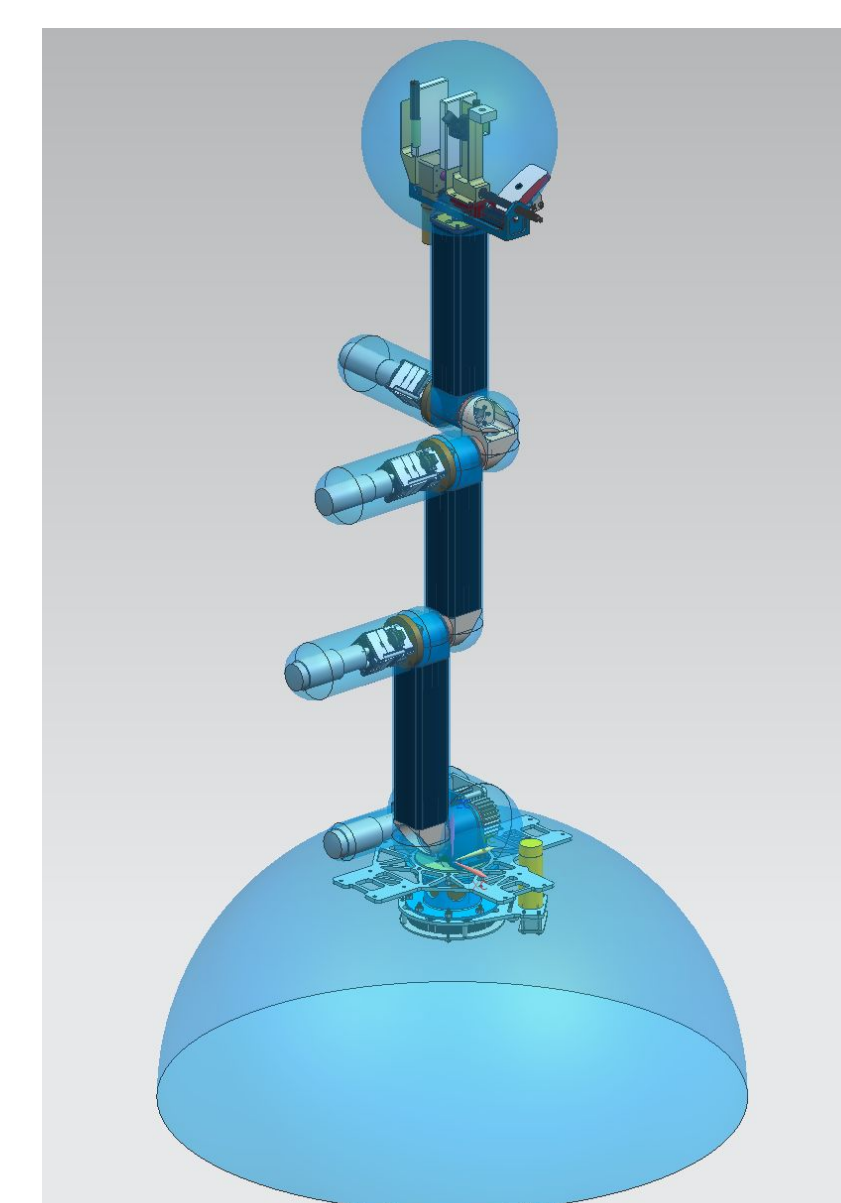

Figure 2: Collision model of arm (capsules and spheres) on overlaid on arm design.
- High fidelity self collision model (Figure 2)